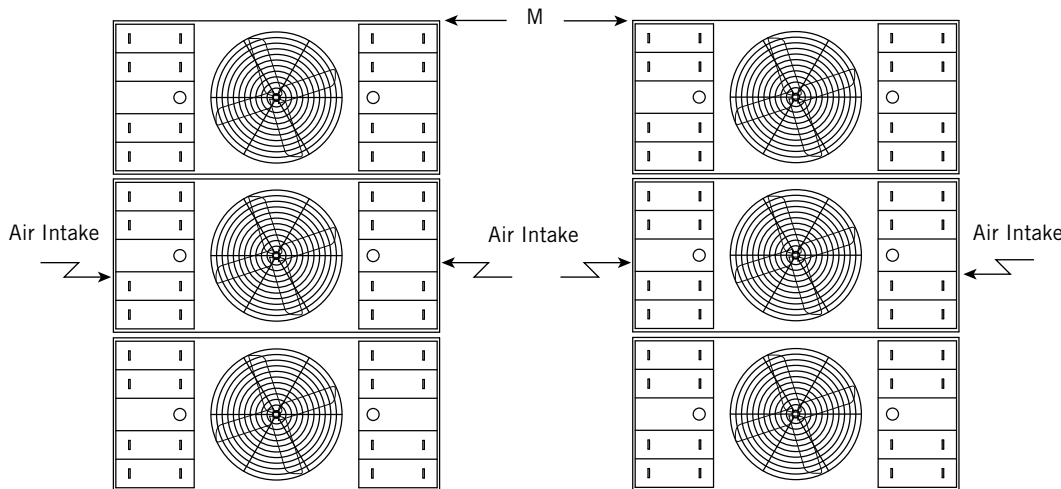

Figure 14. Plan View of Multi-Cell Units with Air Intakes Facing Each Other
**Example: Model S3E-1222-14R (see Figure 14)**